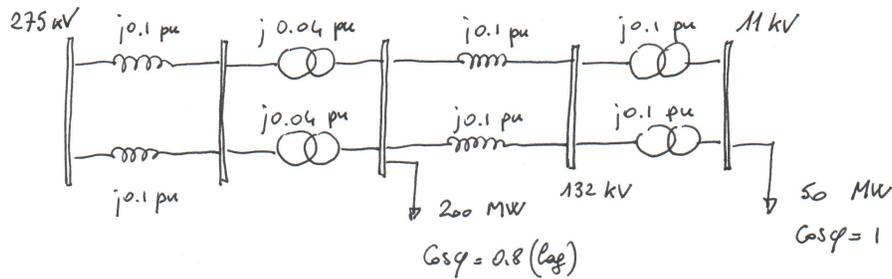

Figure E.3
E.3. Figure E.3 shows a radial transmission system where all values are in per unit with respect to transformer nominal voltages and 100 MVA. Determine the power factor at the 275 kV bus to have 11 kV at the other end of the system.